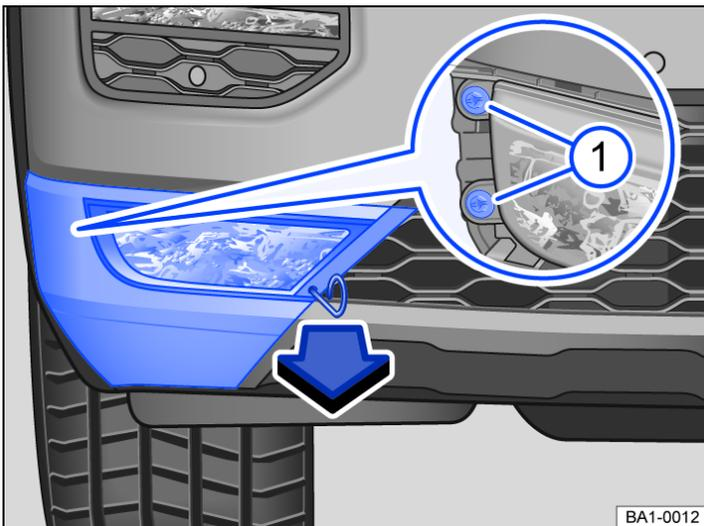

Fig. 1 In the front bumper on the right: removing the fog light.
7. Fit the rubber cover → Fig. 1  or hard plastic cover and turn it clockwise as far as it will go.
2. Take the puller from the toolkit and insert it in the opening in the cover \rightarrow Fig. 1. Pull the cover off forwards in the direction of the arrow (→ Vehicle toolkit).
3. Unscrew the securing screws \rightarrow Fig. 1 ¹ with the screwdriver (→ Vehicle toolkit).